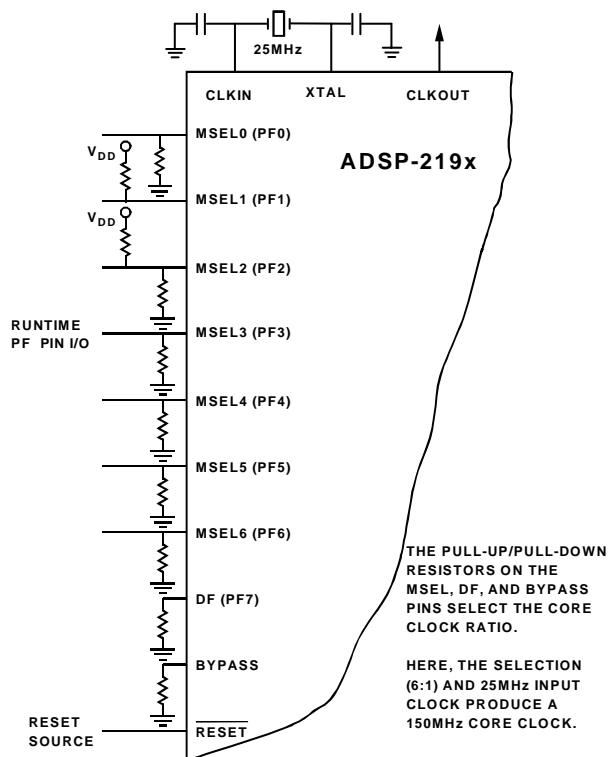

Figure 5. External Crystal Connections
The ADSP-2191M can be clocked by a crystal oscillator or a buffered, shaped clock derived from an external clock oscillator. If a crystal oscillator is used, the crystal should be connected across the CLKIN and XTAL pins, with two capacitors connected as shown in Figure 5. Capacitor values are dependent on crystal type and should be specified by the crystal manufacturer. A parallel-resonant, fundamental frequency, microprocessor-grade crystal should be used for this configuration.
The DSP provides a user-programmable $1\times$ to $32\times$ multiplication of the input clock, including some fractional values, to support 128 external to internal (DSP core) clock ratios. The MSEL6–0, BYPASS, and DF pins decide the PLL multiplication factor at reset. At runtime, the multiplication factor can be controlled in software. To support input clocks greater than 100 MHz, the PLL uses an additional input: the Divide Frequency (DF) pin. If the input clock is greater than 100 MHz, DF must be high. If the input clock is less than 100 MHz, DF must be low. The combination of pullup and pull-down resistors in Figure 5 set up a core clock ratio of 6:1, which produces a 150 MHz core clock from the 25 MHz input. For other clock multiplier settings, see the *ADSP-219x/2191 DSP Hardware Reference*.